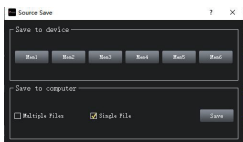

Figure 3.4.2
Step 2: Click "Save" item will pop up after the Save As dialog window machine preset (Figure 3.4.2).
Step 3: Figure 3.4.2 dialog box, does not show the name of the data indicates that this scene is the factory default data, select the user preset number you want to save the machine location (such as Option 4), and then point below the "save" button, you pop up as shown in Figure 3.4.2," enter the scene name "box. If you select the number of the existing scene name, it will overwrite the original data!!